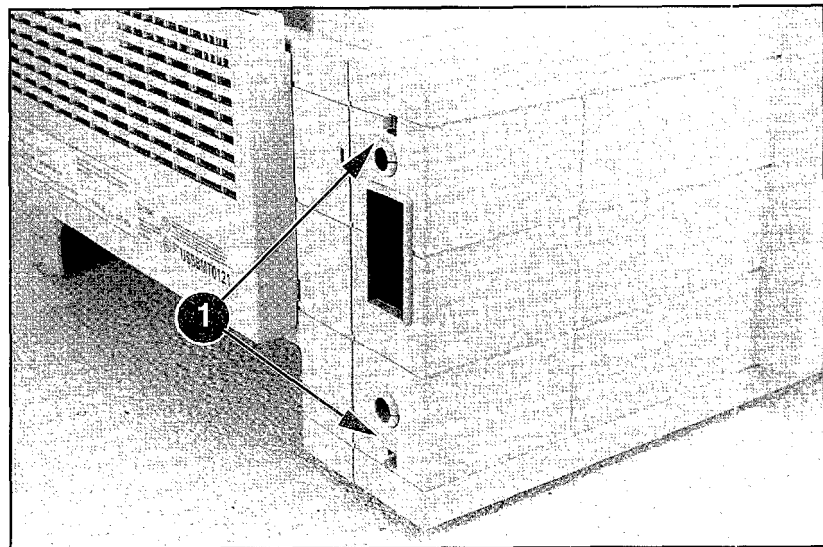

Figure 13 I/O Cover Release Tabs
1. Locate the two release tabs shown in Figure 13. Press the tabs in, and swing the rear of the door out and forward. The door easily lifts away from the printer.